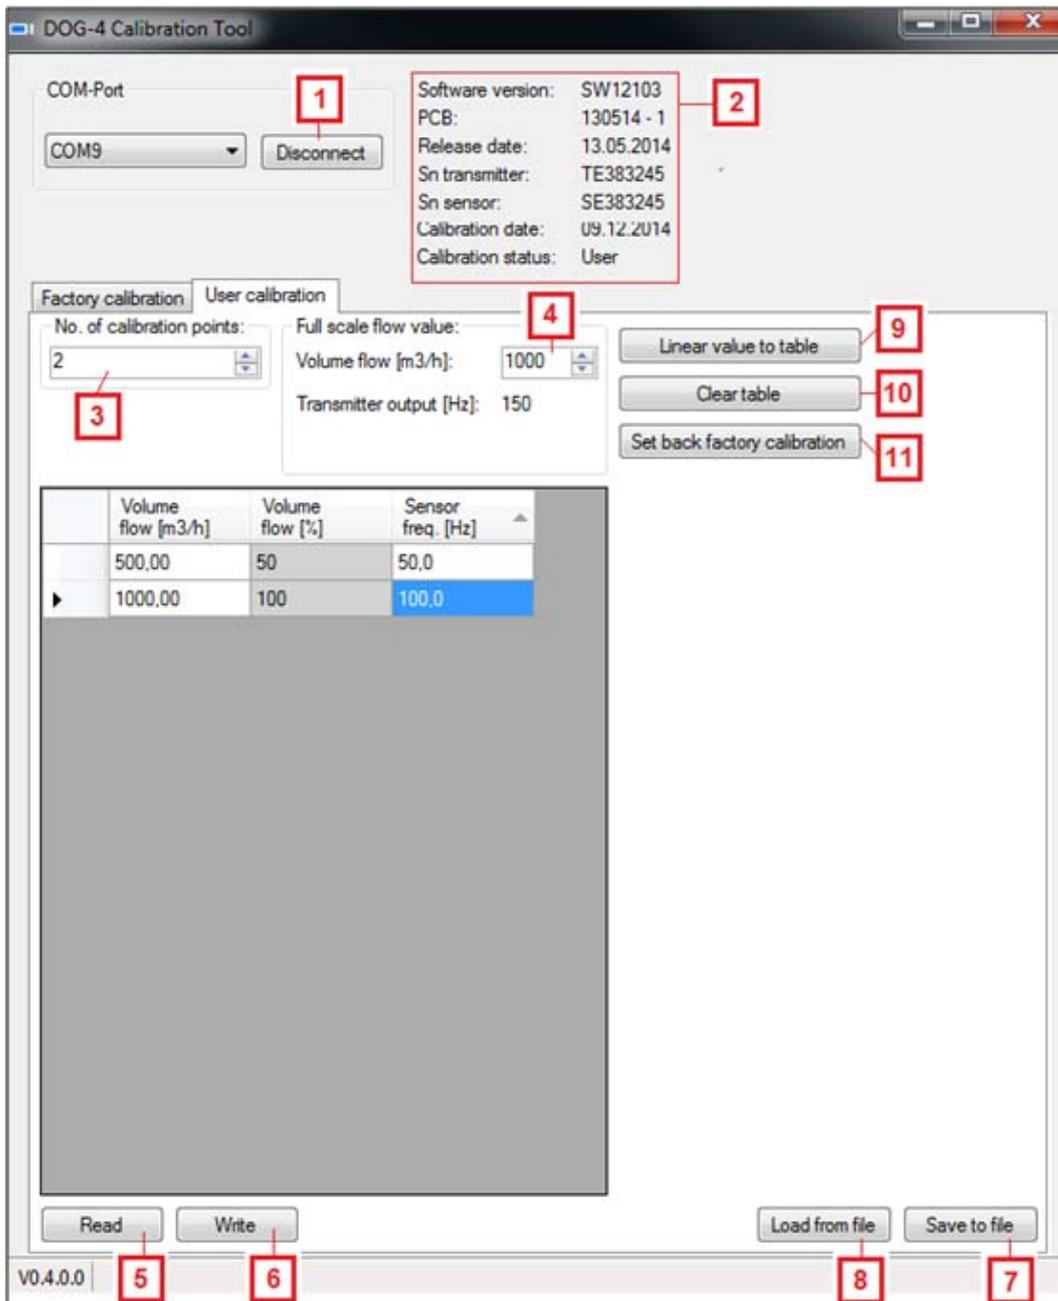

Figure 1: User Interface: 'User Calibration' tab
If connection is successful, the device parameters [item 2 in Fig. 1] appear at the top, followed by two tab options, Factory Calibration and User Calibration.
- In the 'Volume Flow [m³/h]' input field (item 4 in Fig.1), enter the measurement limit value of the DOG-... device being calibrated (see type plate)
- Click 'Create table with linear values' (item 9 in Fig.1)
- Now click the Write button (item 6 in Fig.1) to transfer the data into the transmitter memory.
To enter the sensor characteristic measured, first select the number of calibration points (item 3 in Fig. 1). This may be a number between 1 and 16. Next, the upper measurement limit value is entered in [m³/h] (item 4 in Fig.1) and all table values then deleted (item 10 in Fig.1).
Next, click the Write button (item 6 in Fig.1) to carry the data into the transmitter memory.
Once data transmission completes, you must click Disconnect (item 1 in Fig.1) to end the calibration routine. Only then will the transmitter quit the calibration mode and perform an automatic reset to store the data in the transmitter.
You can write the calibration data from the table into a configuration file by clicking the Save Parameters button (item 8 in Fig. 1). You can then reload this data at a later time by clicking Load Parameters (item 7 in Fig.1) in order to analyse the calibration values or to send them to the transmitter again.
You can also read the user calibration data out from memory via the Read button (item 5 in Fig.1).
The factory-preset calibration can also be reactivated. To do this, click 'Restore Factory Settings' (item 11 in Fig. 1). The bottom row of the device parameter display (item 2 in Fig.1) indicates whether the device is currently operating in 'user' or 'factory preset' mode.
To prevent these error messages, we recommend that you set the table initially to one calibration point (item 3 in Fig. 1) and enter the data into the first row. Then increase the table to two calibration points and fill in the second row. Continue in this way until all calibration points have been entered. Once there are no orange-highlighted fields in the table, you can begin to transfer the calibration data.
- All volume flow values must be lower than the upper limit value (item 4 in Fig. 1).